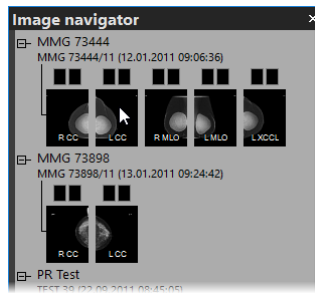

Figure 427 – Display image using the image navigator
- The direct display of one or more image(s) using the mammography image navigator (see Figure 427) in any view of the mammography workspace. The image navigator is an additional image tool that displays the preview of all opened mammography images in the hierarchical tree, and allows to display an image of any opened mammography study in the workspace view in a very simple manner.
2. Expand the selected mammography study, and click the required image preview in the image navigator (see Figure 427).